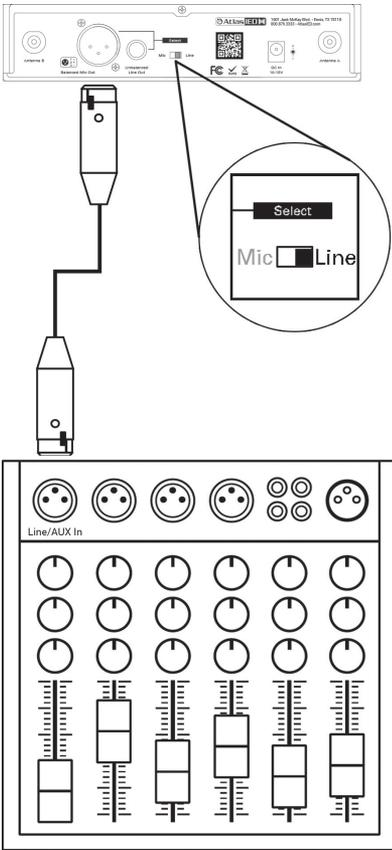
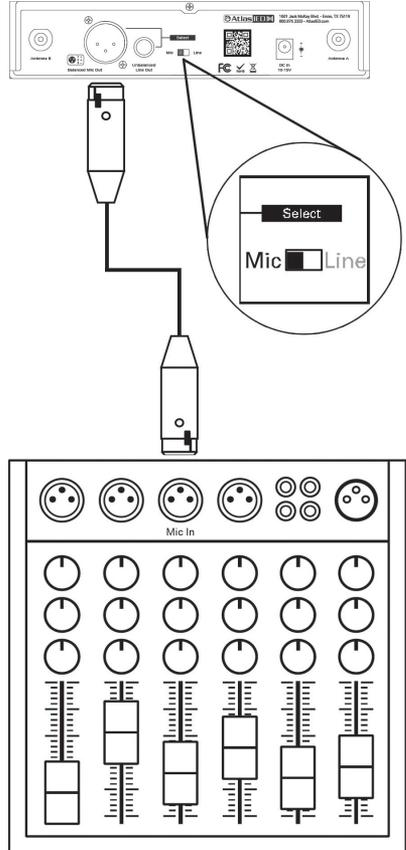

Figure 16
Figure 17
**Level Switch Setting:** When connecting to the LINE / AUX IN of a mixer / amplifier, switch to "LINE" position (Fig 16). DO NOT use the "MIC" position as they may not deliver a sufficient output level. When connecting to the "MIC IN" jack of a mixer / amplifier, switch to "MIC" position (Fig 17). Distortion may occur at the wrong level position.